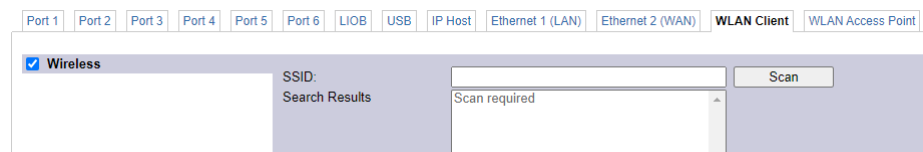

Figure 52: Wireless Port Mode
12.5. Depending on the required wireless modes, select the WLAN Client or WLAN Access Point tab. The first configuration step is to enable the **Wireless** protocol on the respective tab of the port configuration, as shown in Figure 52.